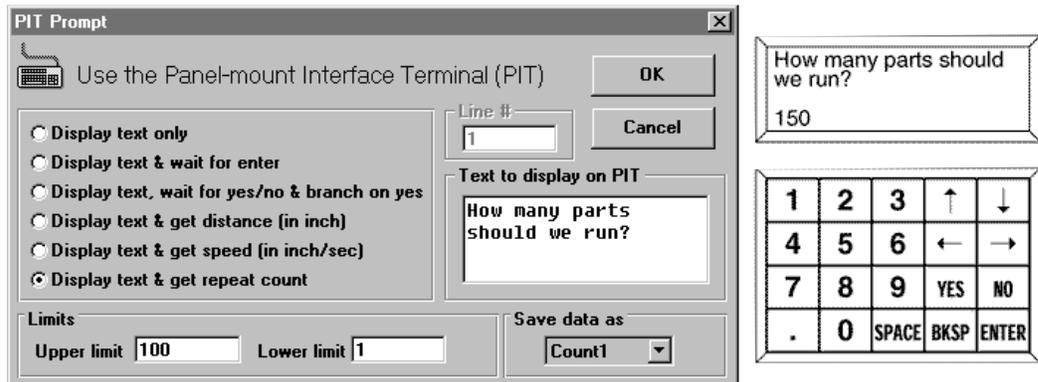

Figure 41 - PROMPT USER FOR REPEAT COUNT
**TO GET A REPEAT COUNT FROM THE USER (SEE FIG. 41):**